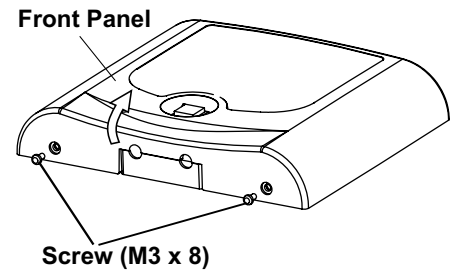

Fig.3-18 Opening Front Panel
1. Remove two (M3 x8mm) screws from the bottom side of the controller and open the front panel. **(Fig.3-18)**
7. Set the pins located on the upper side of the front panel into holes on the top of chassis and attach the front cover to the chassis with two (M3 x 8mm) screws from bottom side of the controller. **(Fig.3-18 & 3-21)**